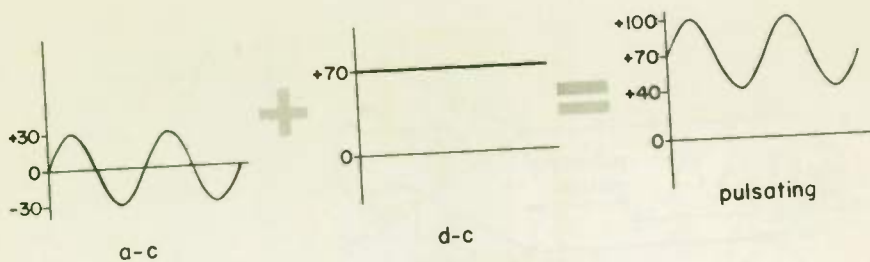

Fig. 30
2. The values of the d-c and a-c components of a pulsating voltage can easily be obtained from a graph. Figure 30 shows a 30-volt a-c wave added to a 70-volt d-c level. The maximum value that this pulsating voltage takes on is (a) _____ volts. The minimum value that this pulsating voltage reaches is (b) _____. Note that you could have obtained these values by merely adding and subtracting the a-c and the d-c without looking at the graph: